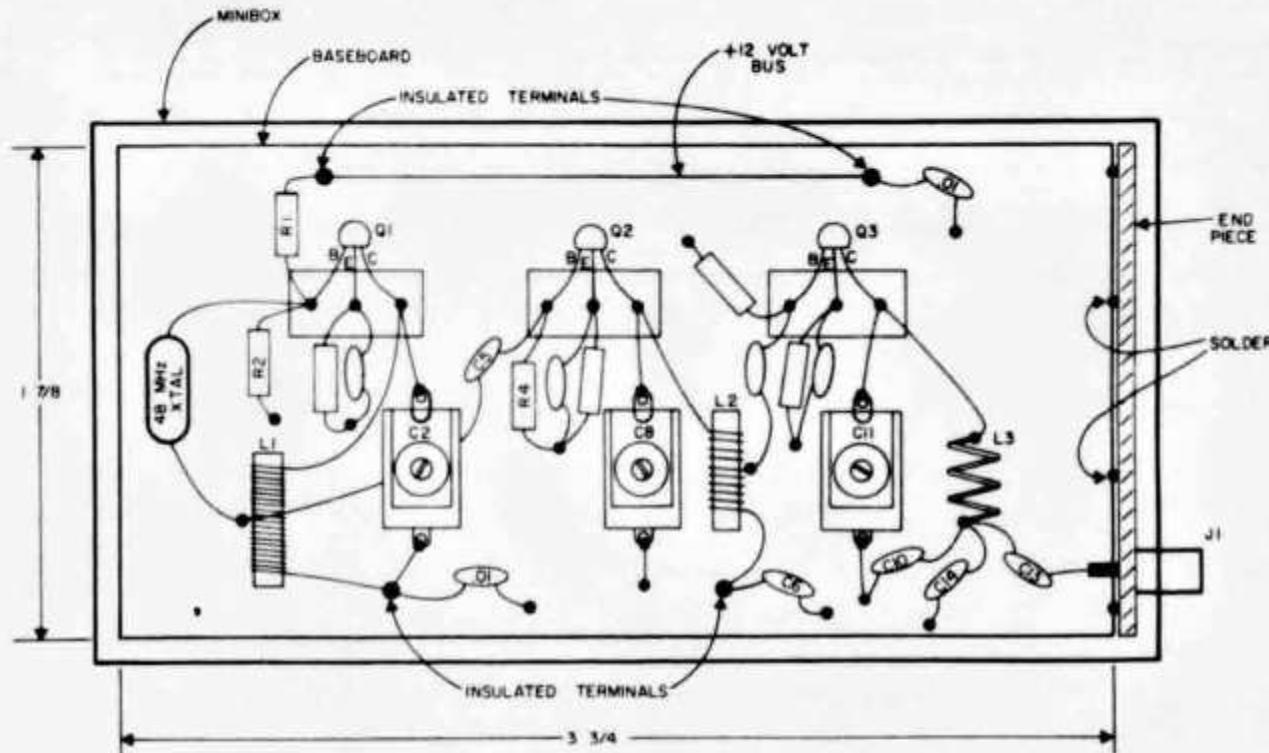

Fig. 2. Layout. This is not a complete schematic. Some wires have been left out for clarity.
This is a tough one. I make my own out of common pins, (see Fig. 3) and small pieces of bakelite or fiberglass. Drill an .020 hole, hammer in a common pin of diameter .021 and you've got one terminal. The layout, Fig. 2, shows how this makes things easy for you, especially with a copper-clad baseboard.
**Fig. 2** should help also. I was surprised at what a neat package the whole thing turned into, with plenty of room everywhere.